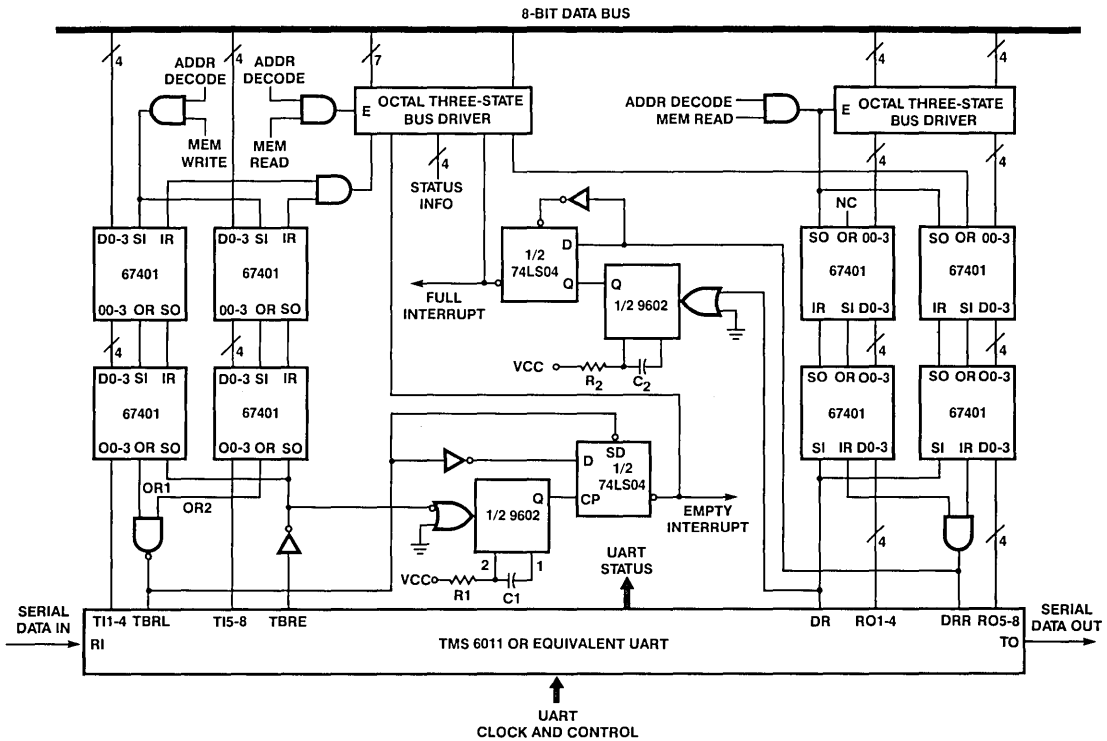
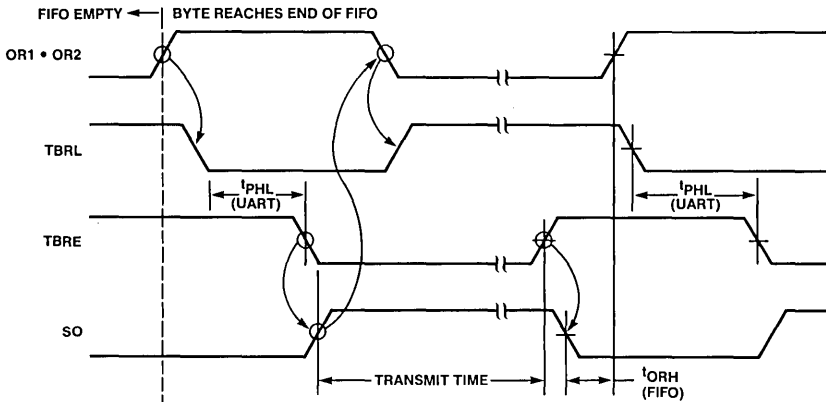
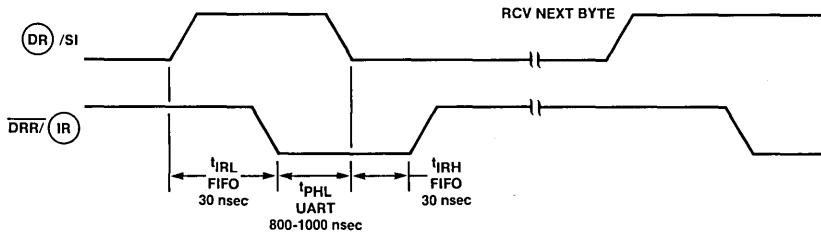

Figure 21. UART Data Buffer Logic for XMIT and RCV Using 67401 FIFOs
Figure 22. Timing Diagram, Transmit Buffer Operation
Figure 23. Timing Diagram, Receive Buffer Operation
accepts parallel data bytes from the computer's data bus, converts to serial data, and adds start, parity, and stop bits. The receiver section of the UART accepts serial data from a transmission line, modem, or terminal, validates the data by checking proper start, parity and stop bits, and converts the data to parallel bytes to be read by the computer on its data bus. In effect, the UART is a monolithic serial I/O port for the computer. Serial data rates up to 9600 baud are permitted by the UART, but much slower rates (110 to 300 baud) are commonly used to interface terminals. 110 baud corresponds to 10 bytes per second at the data bus. FIFOs can be used between the computer's data bus and the UART in both receive and transmit mode to match the low serial transmission rates to high speed bursts that make much more efficient use of the computer's time and memory space. A logic diagram for this interface is shown in Figure 21. Four 67401 FIFOs are connected in a series/parallel arrangement for both the transmit and the receive buffers. This arrangement permits a 128-byte buffer capacity for transmit and 128 bytes for receive. The buffers can be expanded easily in both width and length to accommodate different computers or greater buffer capacity.
The interface shown in Figure 21 allows the computer to write bursts of up to 128 bytes at the maximum data rate of the computer into the 67401 FIFO array. The input ready signals are ANDed together and fed back through a status port to the computer data bus so that burst data may be written under program control as rapidly as the write program will allow. The UART reads the outputs of the FIFO array one byte at a time, adds start, stop and parity bits and serializes the data to the serial output at the desired transmission rate (assumed to be much slower than the input burst rate). Assuming that the FIFO array is initially empty, the operation proceeds in accordance with the timing diagram in Figure 22. When the first parallel byte reaches the output of the buffer, the Output Ready lines go high. When both OR1 and OR2 have gone high, the NAND gate drives the UART's Transmit Buffer Register Load (TBRL) signal low. After the tPHL delay in the UART, the Transmit Buffer Register Empty (tBRE) signal goes LOW, causing the UART to
In many applications of the 67401 FIFO it is necessary to determine when the transmit buffer is empty or the receive buffer is full. The logic required to provide both these signals is shown in Figure 21.
The receive buffer logic is shown in the right hand portion of Figure 21 and the timing diagram is shown in Figure 23. The UART receives serial data with start, stop, and parity bits, evaluates parity, and converts the data to parallel bytes to be stored in the FIFO at the slow or erratic receive rate. The Data Ready (DR) signal of the UART is tied to SI on the two FIFOs and the two IR lines are ANDed together to drive the Data Ready Reset (DRR) line of the UART. When the FIFO is ready to accept a byte of data from the UART, the AND of the two IR signals holds DRR HIGH. If the UART has a new byte, it sets DR HIGH, driving SI HIGH to enter the new data into the input register of the FIFOs. After the  $t_{IRL}$  delay, IR goes LOW driving DRR LOW. After the  $t_{PHL}$  delay in the UART, DR goes LOW driving SI LOW. If the FIFO is not full, IR returns HIGH after  $t_{IRH}$  indicating to the UART that the FIFO